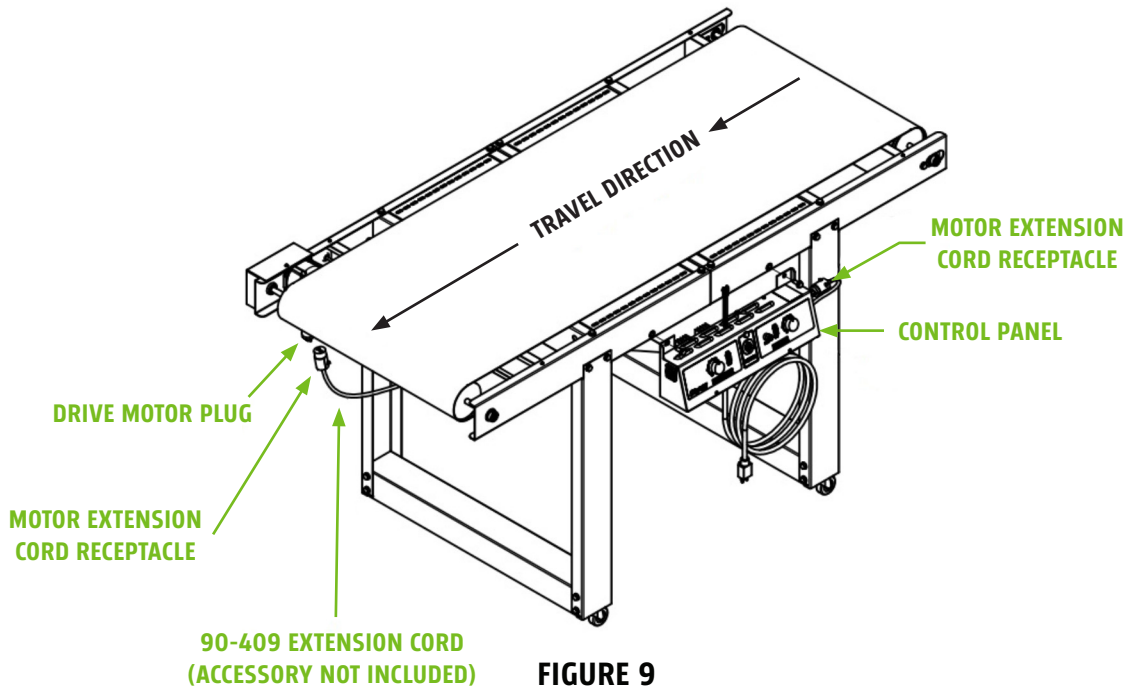
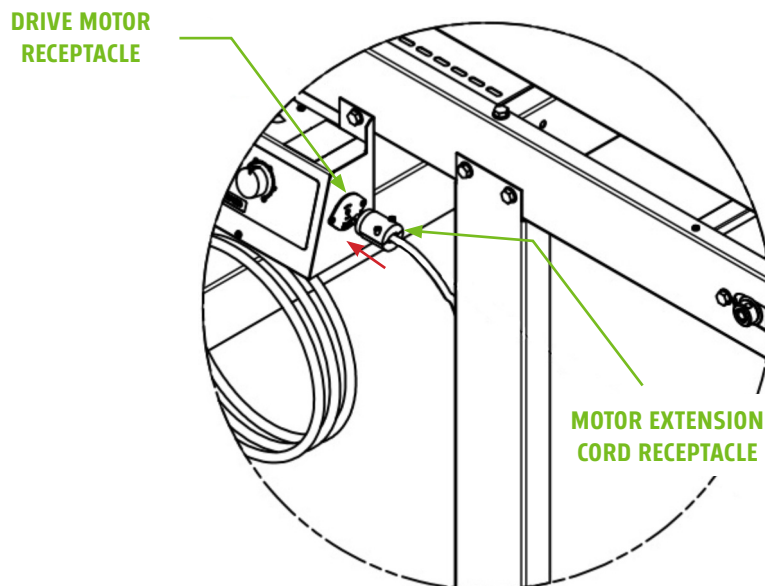

FIGURE 9
FIGURE 10
1. Use two Hex-Head Bolts to fasten the Control Panel to the Conveyor Assembly (See **Figure 9**).
2. Insert Drive Motor Plug into Motor Extension Cord Receptacle. Twist plug to lock in place (See **Figure 9**). Insert Motor Extension Cord Plug into Drive Motor Receptacle. Twist plug to lock in place (See **Figure 10**).